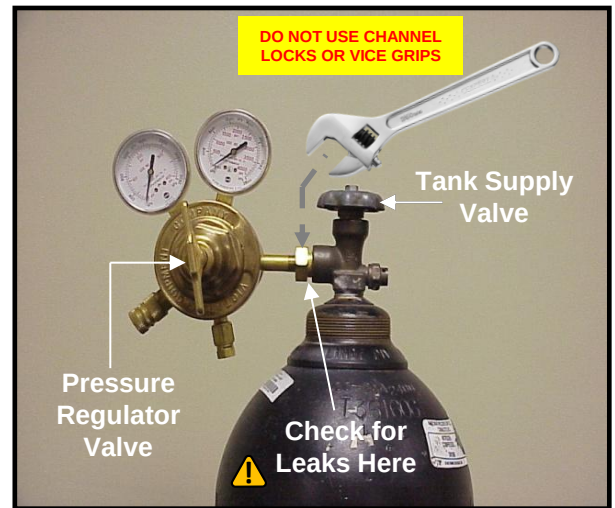

Figure 9
7.2 Thread the Pressure Regulator fitting into the Tank valve housing and tighten with a large adjustable wrench. **See Fig. 9**